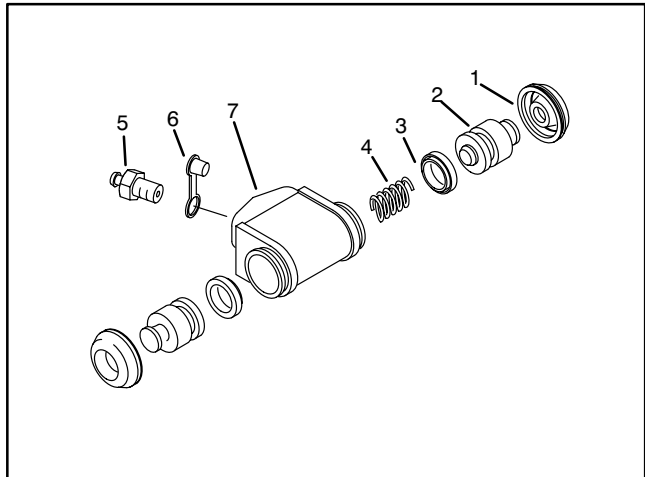

Figure 10
NOTE: It may be necessary to back off adjuster to remove brake drum. To back off adjuster, rotate brake drum until access hole lines up with star wheel (Fig. 10). Use a hooked piece of wire to pull pawl away from star wheel, then turn star wheel.
3. Disengage parking brake cable from parking brake lever (Fig. 10, Item 11).